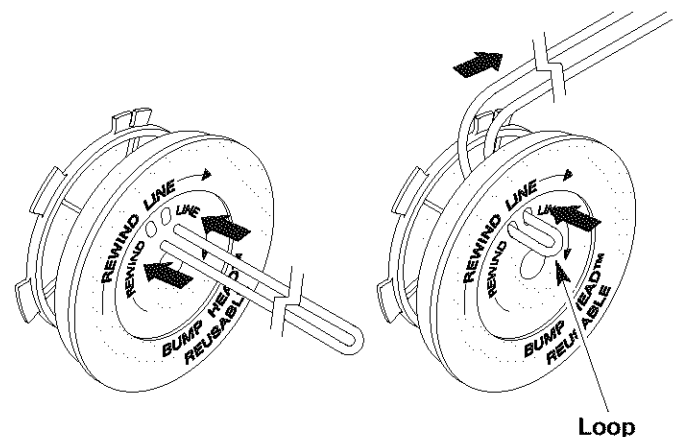

Fig. 20
6. Take approximately 20 feet (6.1 m) of new trimming line, loop it into two equal lengths. Insert each end of the line through one of the two holes in the inner reel (Fig. 20). Pull the line through the inner reel so that the loop is as small as possible.